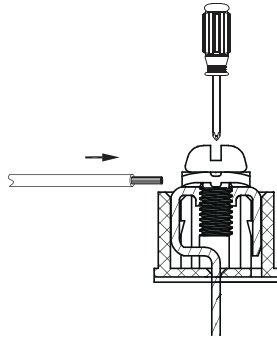

Fig. 27 —Connecting Communication Wire to Outdoor Unit Communication Terminal
3. Use a suitable screwdriver to fix the communication wire on the outdoor unit communication terminal as shown in Fig. 27.